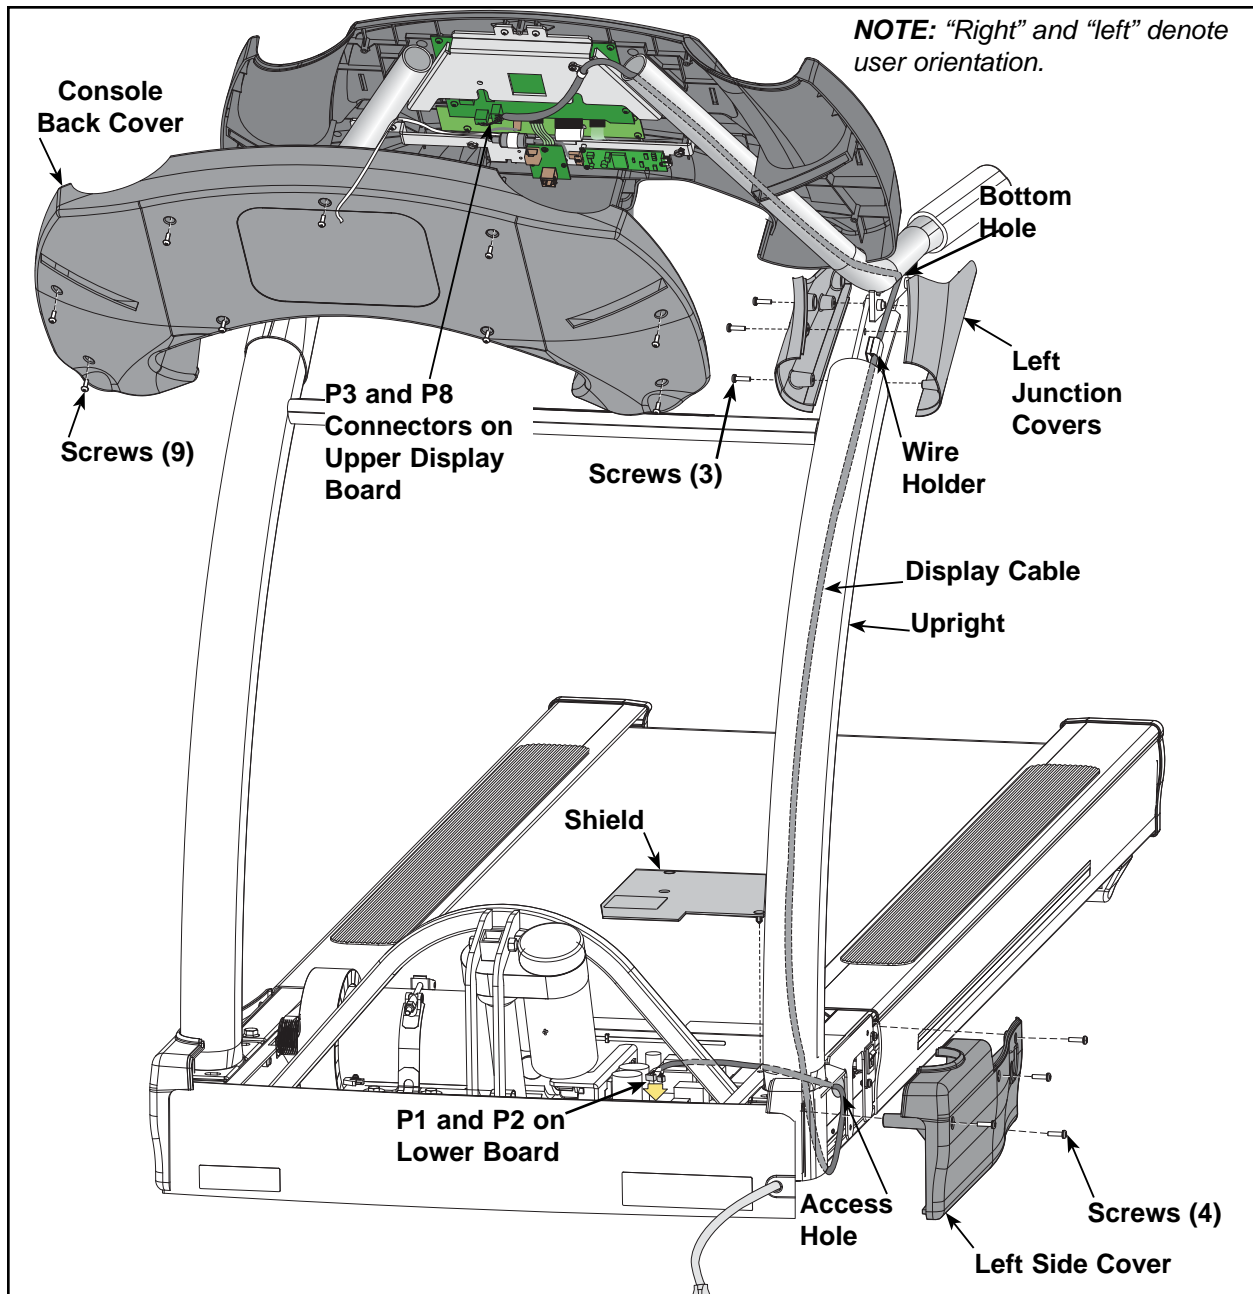

Figure 27
- B. Disconnect the display cable (P1 and P2) from the lower board. See Figure 27 .
- C. Disconnect the display cable (P3 and P8) from the upper display board. See Figure 27.
- A. Connect the display cable (P3 and P8) to the upper display board. See Figure 27.